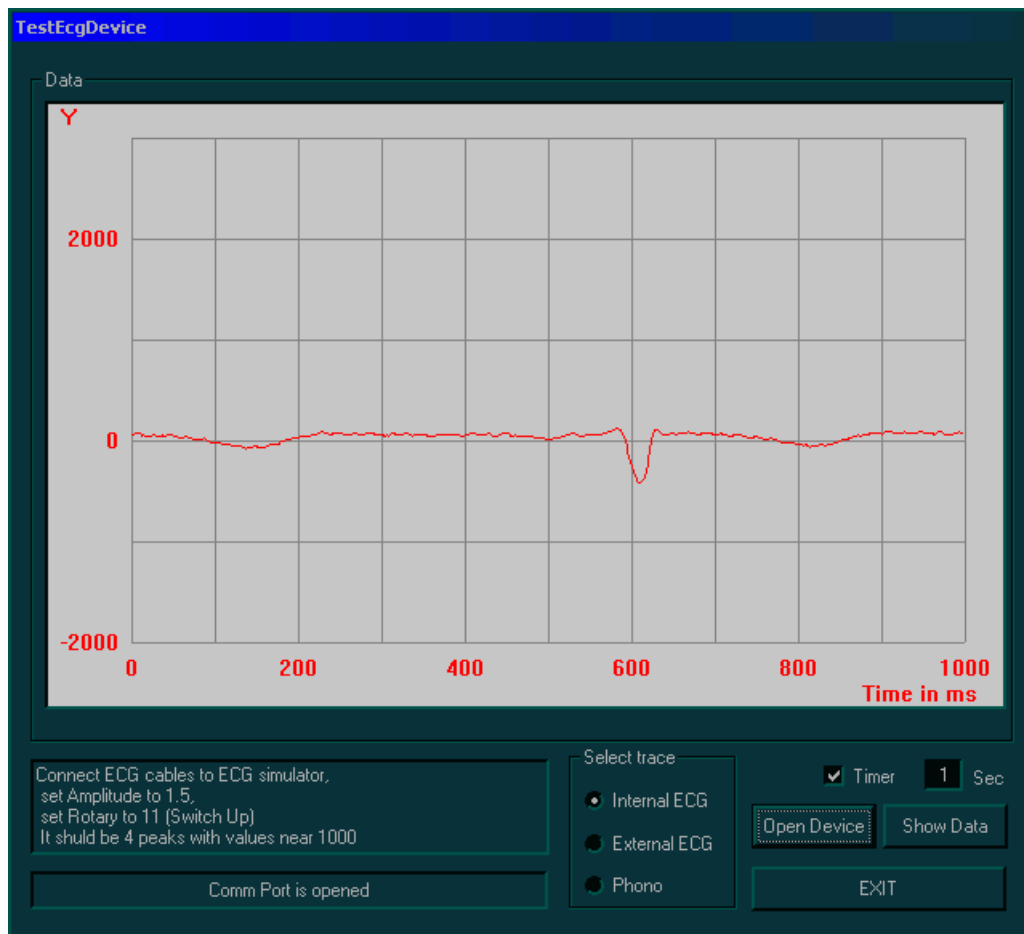

Figure 7-47 Test ECG Device Dialog Box
- 3) Trackball to the **ECG / Phono** button and press **Select**. The *TestECGDevice* dialog box is displayed, as shown in Figure 7-47 on page 7-71.